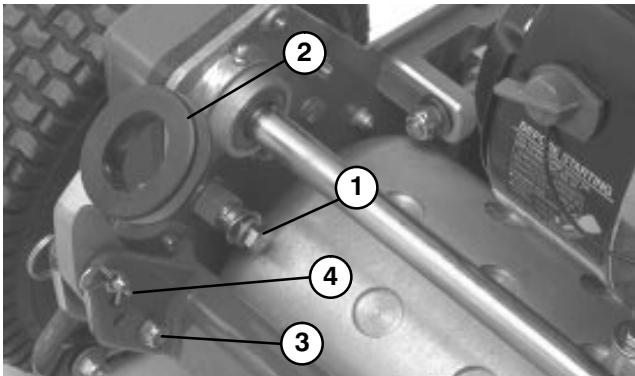

Figure 1
1. Remove capscrew, washer and lockwasher from mounting pin on each side of mower, as shown in fig. 1.
2. Remove capscrews and locknuts securing bottom of handle arms to each side of mower, as shown in fig. 1.
3. Remove hair pin coppers and ring pins securing handle arms to rear of frame (Fig. 1).
4. Insert handle ends thru holes in handle arms and align holes with mounting pins (Fig. 1).